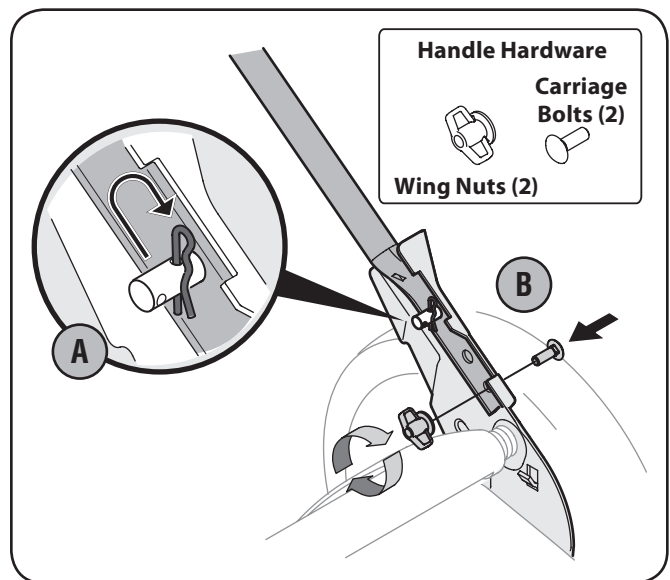

Figure 3-2
- Remove hairpin clip from this hole. Using a pair of pliers, insert hairpin clip into the hole on pin closest to the bracket. See Fig. 3-2. Repeat on other side.